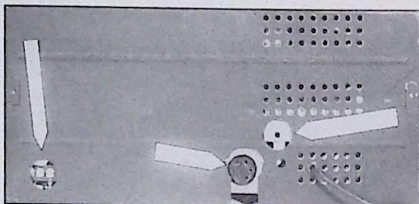

Fig. 11-2—A rear view of the BC-348-Q with the case replaced, showing clearance holes cut in the case.
Beginning with the antenna terminals and working through the set to the output transformer, the first addition was an auxiliary set of "Ant.-Gnd." terminals placed at the rear of the chassis. A terminal strip was bolted to the frame of the set at the rear, as shown in the photograph of Fig. 11-S, and a wire was brought from the "Ant." terminal on the panel along the lateral side of the antenna unit (190) to it. The ground connection was made directly to the chassis via a small lug under the bolt holding the terminal strip. A $1\frac{1}{16}$ -inch hole was cut in the cabinet to allow access to the new terminals (Fig. 11-2).